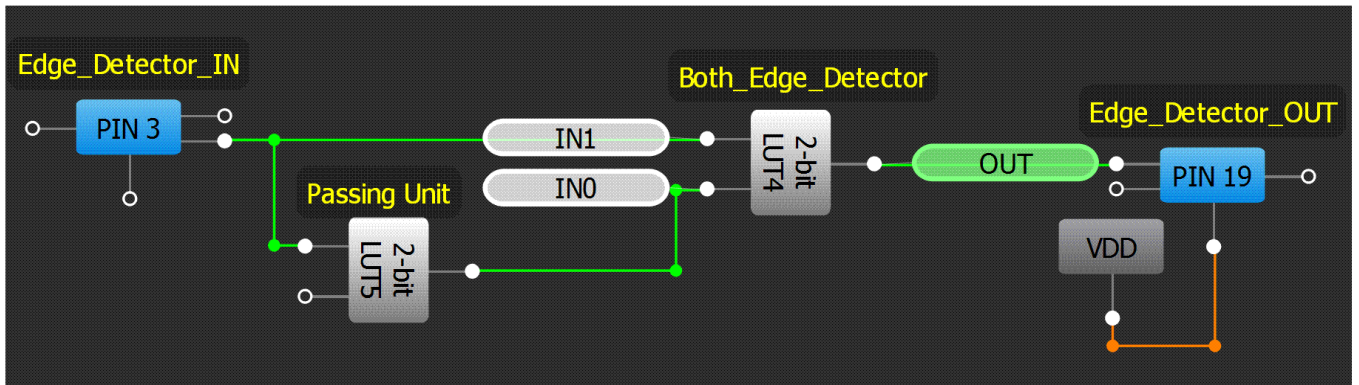

Figure 6. Digital Edge Detector Circuit in GreenPAK3 Designer
As you can see on Figure 6, Digital Edge Detector can be implemented using 2-bit LUT4 with connected to its input Edge\_Detector\_IN (PIN3), programmable delay and Edge\_Detector\_OUT (PIN19) connected to its output. This output PIN has an Output Enable node connected to VDD as it is configured as Push-Pull.
*Note: for proper operation of circuit don't forget to configure input and output pins correctly. In case of schematic you see on Figure 6 input is configured as Digital Input with Schmitt trigger, and output as Push-Pull.*